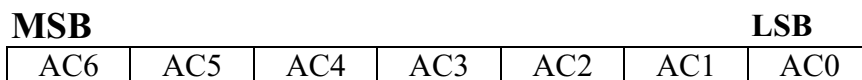

Fig.1. DDRAM Address
DDRAM stores display data of maximum 80 x 8 bits (80 characters). DDRAM address is set in the address counter (AC) as a hexadecimal number. (Refer to Fig.1.)